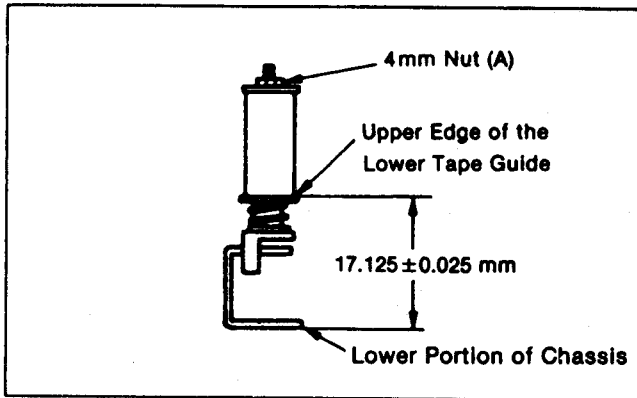

Fig. T3
- For adjustment S4 Post height, turn 4mm Nut(A) Slightly in either direction as necessary to the correct clearance between the upper edge of lower tape guide on S4 Post and lower portion of Mecha chassis as shown in Fig.T3.